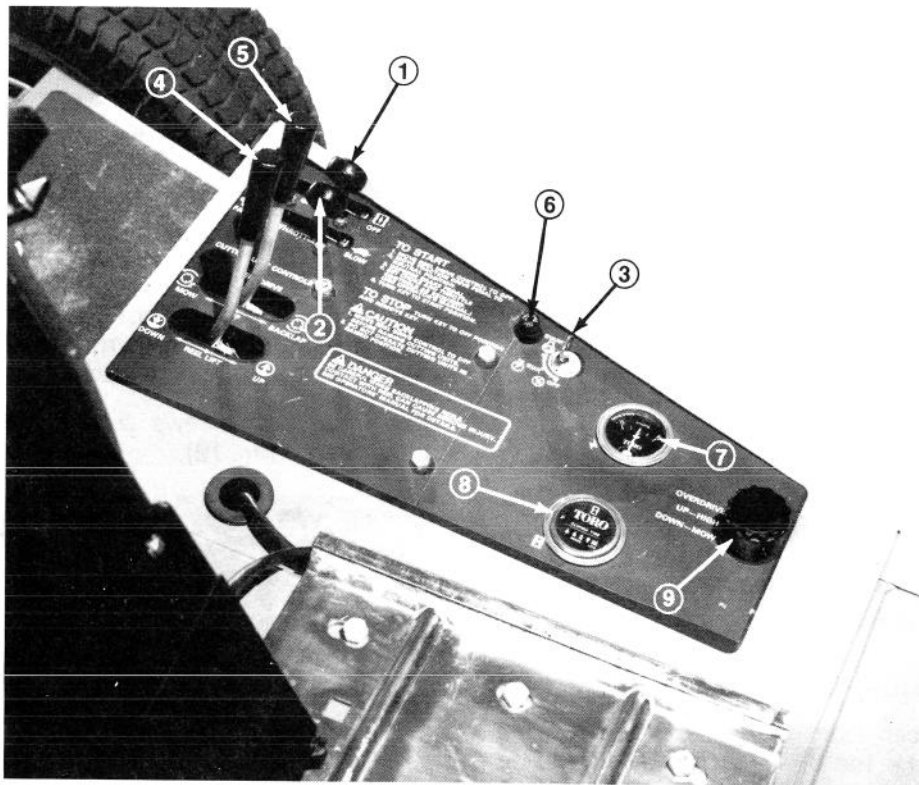

Figure 21
**Overdrive Selector** (Fig. 21) — Black knob at rear of instrument panel. Push knob to DOWN (mow) position to provide drive to all three (3) wheels and ground speed of approximately 0-5 MPH (0-8 km/hr) for mowing operation. Pull knob to UP
**Mow-Backlap Control** (Fig. 21) — Outboard hydraulic control lever. Has three positions, MOW, OFF and BACKLAP. Move lever fully forward to detent for MOW operation, to center of slot to OFF position to stop reels and to full rearward detent position to BACKLAP for backlapping operation or to clear reels of foreign materials.
**Cutting Unit Lift Control** (Fig. 21) — Inboard hydraulic control lever. Has three positions, DOWN, NEUTRAL and UP. Move lever fully forward to DOWN position and hold for approximately five to ten seconds to fully lower cutting units and ensure they will follow uneven ground contours. Release lever to allow it to return to NEUTRAL position. Pull lever rearward and hold in UP position to fully raise cutting units.
**Throttle** (Fig. 21) — Throttle is used to adjust engine to various speeds. Moving throttle forward increases engine speed — FAST; backward decreases engine speed — SLOW. The throttle regulates the speed of the cutter blades and, in conjunction with traction pedal, controls ground speed of the traction unit.
**Choke** (Fig. 21) — To start a cold engine, close carburetor choke by moving choke control fully forward. After engine starts, regulate choke to keep engine running smoothly. As soon as possible, open the choke by pulling lever backward.
**Ignition Switch** (Fig. 21) — The ignition switch, which is used to start and stop the engine, has three positions: OFF, RUN and START. Rotate key clockwise to the START position to engage starter motor. When engine starts, release key and it will move automatically to the ON position. To shut engine off, rotate key counterclockwise to the OFF position.
**Fuse Holder** (Fig. 21) — Located in front of hour-meter. Fuse Holder is part of charging circuit and contains a 30 Amp fuse. Remove fuse by rotating
**Hour Meter** (Fig. 21) — Located in front of over-drive selector. Indicates the total hours of machine operation. The Hour Meter starts to function whenever the key switch is rotated to "ON".
**Ammeter** (Fig. 21) — Located above Hour Meter. Ammeter shows charge rate of battery by the generator. When engine is running, there usually is a slight charge, unless engine is idling slowly. Needle will point to 0 when battery is fully charged. By contrast, generator is not charging battery when needle points to (—) negative side of ammeter, and if this happens, repair charging system to prevent discharge of the battery.